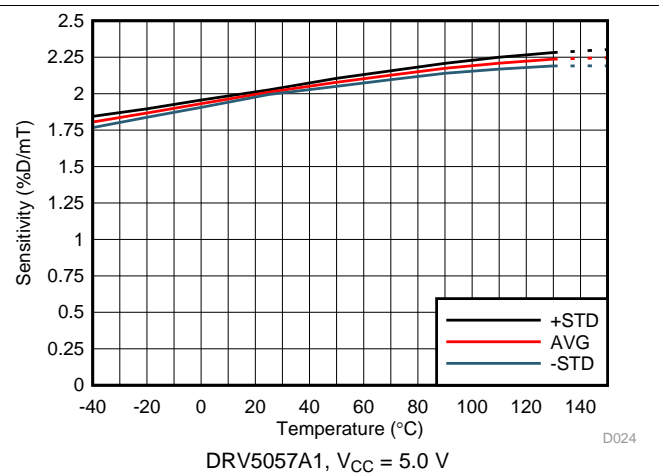

图 4. Sensitivity vs Temperature
(1) B is the applied magnetic flux density.
(2) See the section.
(3) B_L describes the minimum linear sensing range at 25°C taking into account the maximum V_Q and Sensitivity tolerances.
(4) See the Sensitivity Linearity section.
(5) S_{TC} describes the rate the device increases Sensitivity with temperature. For more information, see the Sensitivity Temperature Compensation for Magnets section and Figure 4 to Figure 11.